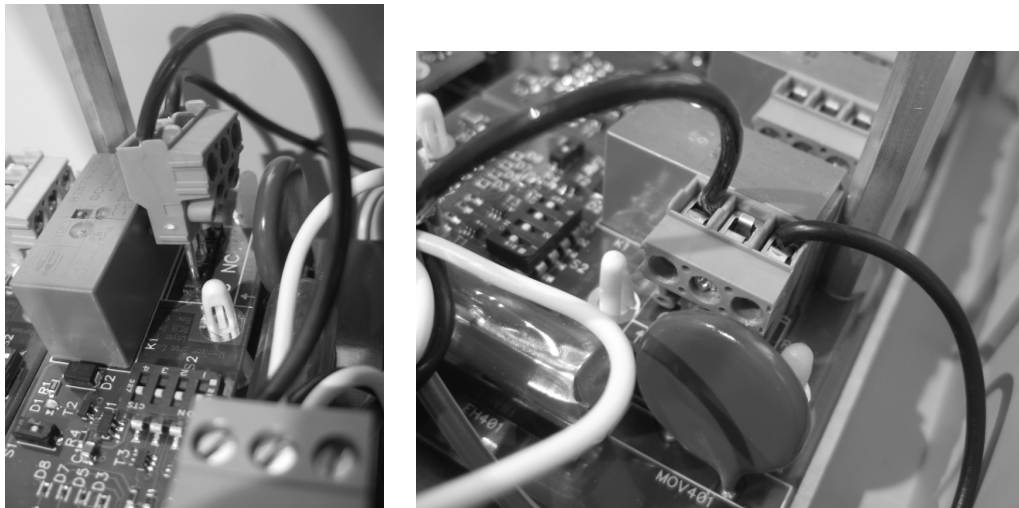

Figure 7 Connecting the Output Connector to the Output Module connector, P1
- e. Connect the Output Connector to the Output Module connector, P1, as shown in Figure 7.